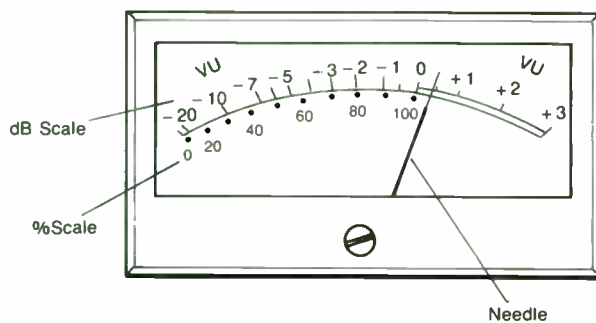

FIGURE 2.5 Standard VU meter.
Another place the signal is sent after program amplification is the volume unit indicator (**VU meter**) (see Figure 2.5). This is a metering device to enable the operator to determine what level of sound is going out the line.
6. In Figure 2.5, 50 percent on the scale is roughly equivalent to _____.